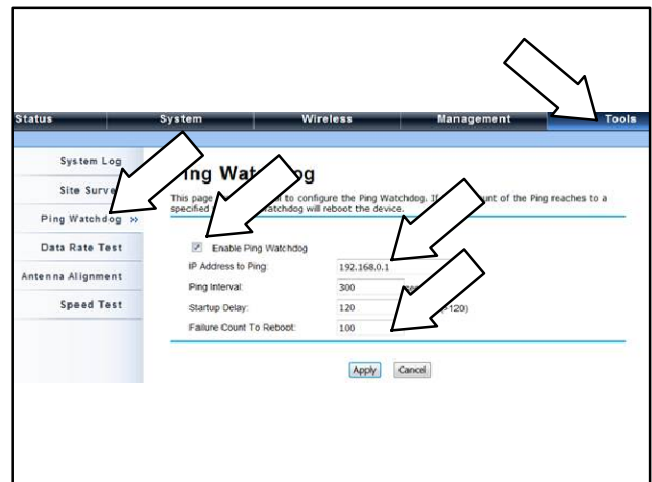

Figure 27 Ping Watchdog
- 19.2 Click on the Tools tab. See Figure 27.